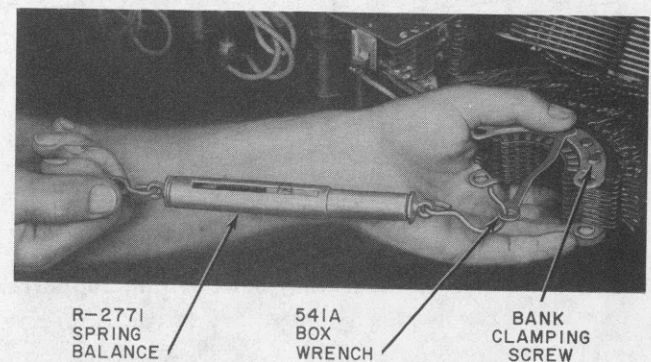

Fig. 13—Method of Checking Tightness of Bank Clamping Screw on Mechanized Bank
3.46 Tighten the screws to between 16- and 18-pound/inch torque. To check this, apply the 541A wrench on the head of the clamping screw and insert the hook of the R-2771 gauge in the hole at the free end of the wrench as shown in Fig. 13. A pull of 4-1/2 to 5 pounds without moving the screw in an indication that the screw has been satisfactorily tightened. A 79F gauge may be used instead of the R-2771 gauge. In this case, attach a piece of cable lacing cord in the hole at the free end of the wrench and apply the gauge to this loop. A pull of 2050 to 2275 grams without moving the screw indicates that the screw has been satisfactorily tightened.